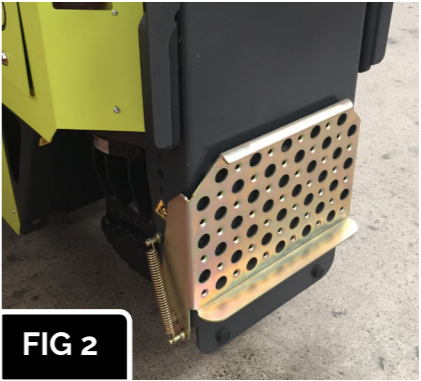

FIG 2
- ▶ In the raised position the operator can walk behind the truck (fig 2).
- ▶ When operating the truck in walking mode the platform must be in the raised position (fig 2)